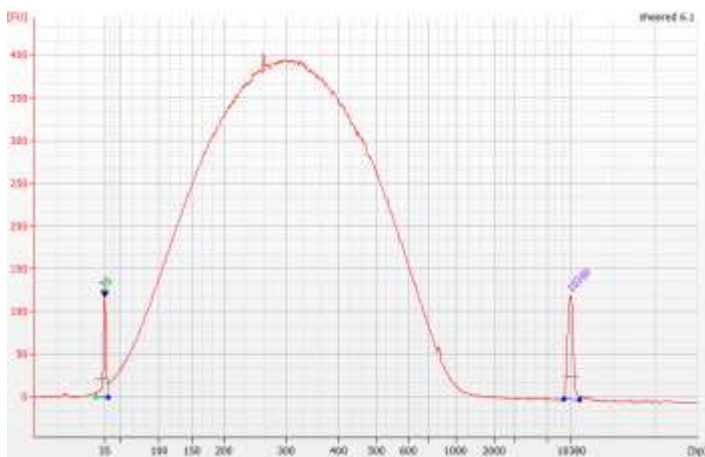

Figure 1: Typical Bioanalyzer trace for gDNA sheared to 300 bp.
1. Analyze 1 μ L of the sheared DNA on a Bioanalyzer High Sensitivity Chip to determine the size distribution. See Figures 1 and 2 below for typical Bioanalyzer traces.